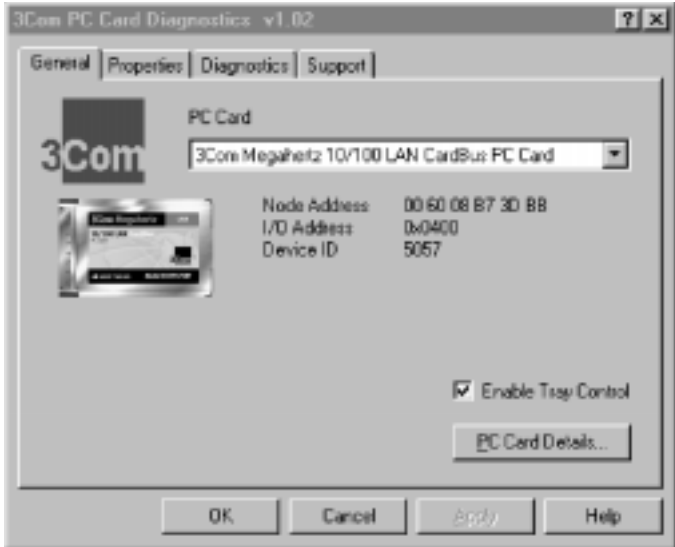

Figure 4-1 PC Card Diagnostics Program General Screen
The 3Com PC Card Diagnostics program General screen appears as shown in Figure 4-1.
- 1 Click the *Properties* tab on the 3Com PC Card Diagnostics General screen, shown in Figure 4-1.